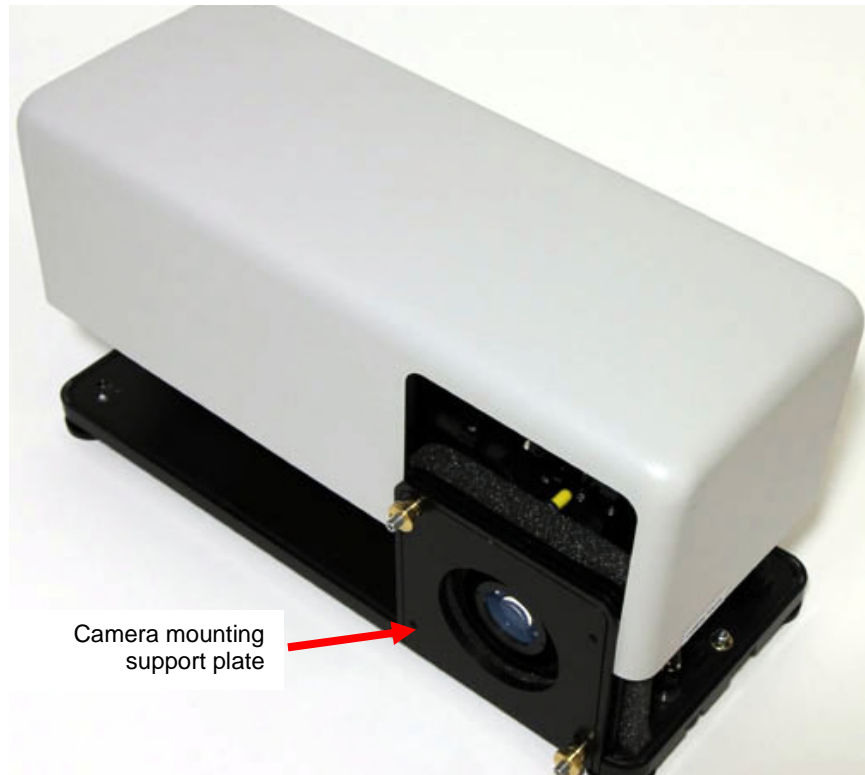

Figure 4-1. The cover slides easily over the *HoloSpec* frame.
- 2 After the latch buttons are disengaged, lift the cover off the base (Figure 4-1). Grooves located on the input adapter support plate at the end of the spectrograph and in the camera mounting support plate at the rear of the spectrograph guide the cover off the base plate.